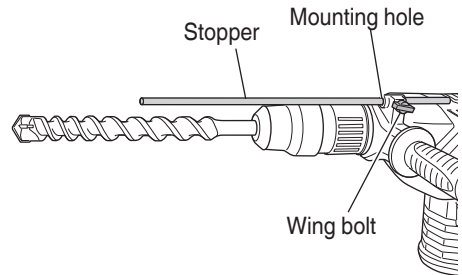

Fig. 11
- (c) Switch the selector lever to “hammering” according to the procedures mentioned in the above item (1) and secure the position of the tool.
5. Install the stopper (Fig. 11)